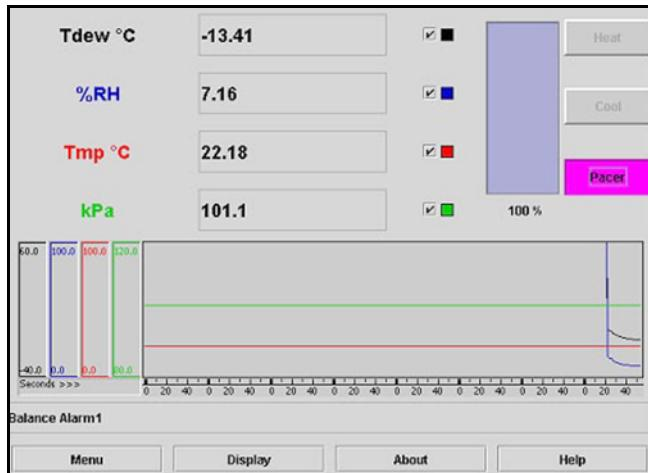

Figure 47: Display with PACER Button Activated
- From the Optica analyzer press the soft-key next to the **PACER** button, or, from *Optica Java* applet running on your PC, move your mouse pointer over the **PACER** button and click. The button will turn magenta, as shown in *Figure 47* below.